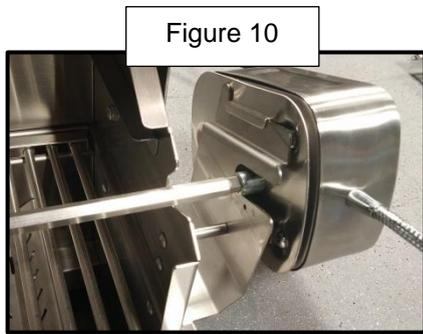

Figure 11: Line groove up with cutout and drop spit rod assembly into place
- Place the rotisserie rod into the motor. Slide the rotisserie rod bushing over the opposite end of the rod and drop into the cut-out provided in the RH side of the inner hood (Fig. 11). Once in place, tighten the thumb-screw on the spit rod bushing.